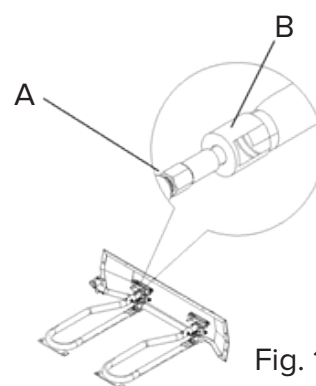

Fig. 11
2. Make sure the orifice spud (A) is inside the burner venturi (B) as shown in Fig. 11.